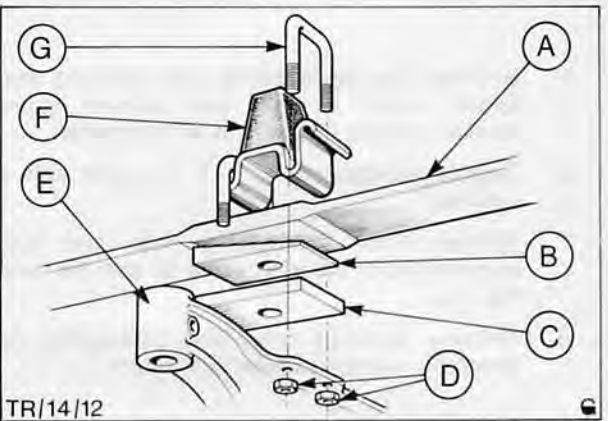

Fig. 12. Front spring and 'U' bolt assembly
9. Raise axle and secure to springs with 'U' bolts, ensuring packing wedges and bump stops are correctly fitted. Wedges fit with the thickest portion towards the rear, Fig. 12.